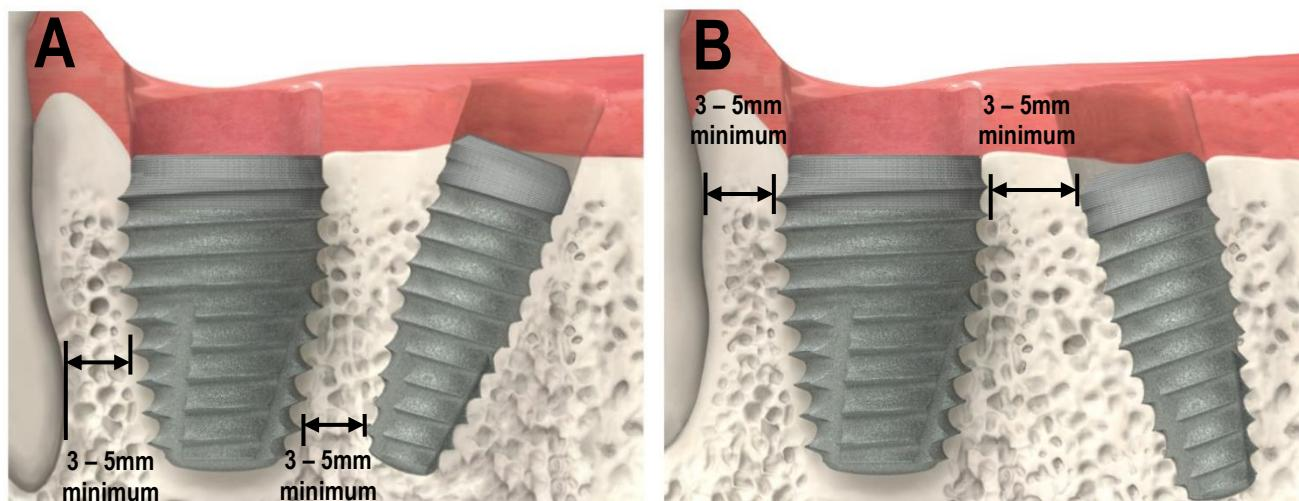

Figure 1. Warnings and Precautions (3)
Dental implants can break in function for a number of reasons including overloading due to improper occlusion, metal fatigue, and over-tightening of the implant during insertion. A certain percentage of implants may fail to achieve or to maintain osseointegration, as demonstrated by mobility, and should be removed. Potential causes of abutment fracture include, but not limited to: casting beyond a 30-degree angle, casting titanium above 2010°F (1099°C), inadequate implant support when attached to periodontically compromised teeth, non-passive fit of superstructure, overloading due to improper occlusion, incomplete seating of cemented abutments, and excessive cantilevering of pontics. Small diameter implants with either angled or straight abutments are intended for the anterior region of the mouth and not intended for the posterior region of the mouth due to possible failure of the implant. Tapered IM Implants (1) are limited to the molar region; (2) restricted to only one implant per molar extraction site; (3) are to be placed 3-5mm from adjacent implants or teeth, with the distance from the apical extent of the implant to adjacent implant or implant to tooth contact point should be 3mm to coronal to the alveolar crest (**Figure 1**); (4) should be at least 1.5mm from buccal or lingual alveolar surfaces to permit adequate integration; and, (5) are used when the surgeon has determined that the placement of a narrower diameter implant would increase the probability of failure due to poor primary stability, or increased surgical procedures leading to complications.